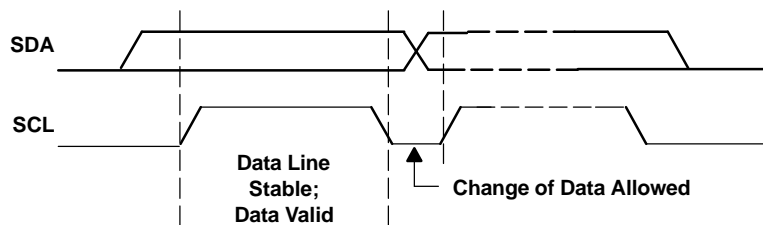

Figure 42. Bit Transfer on the I2C Bus
- Data is transmitted over the serial bus in sequences of nine clock cycles (8 data bits followed by an acknowledge bit). The transitions on the SDA line must occur during the low period of SCL and remain stable during the high period of SCL (see Figure 42).